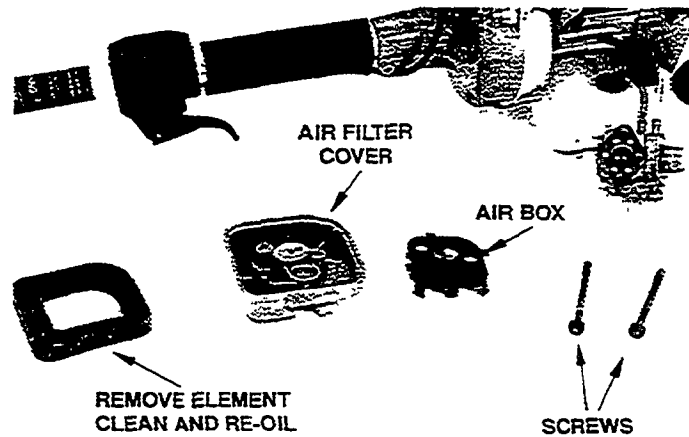

Figure 21
- Clean and service air filter (after cleaning put small amount of engine oil on sponge and squeeze out excess) (**Figure 21**).
- Check fuel filter in tank and clean if needed (**Figure 21**).